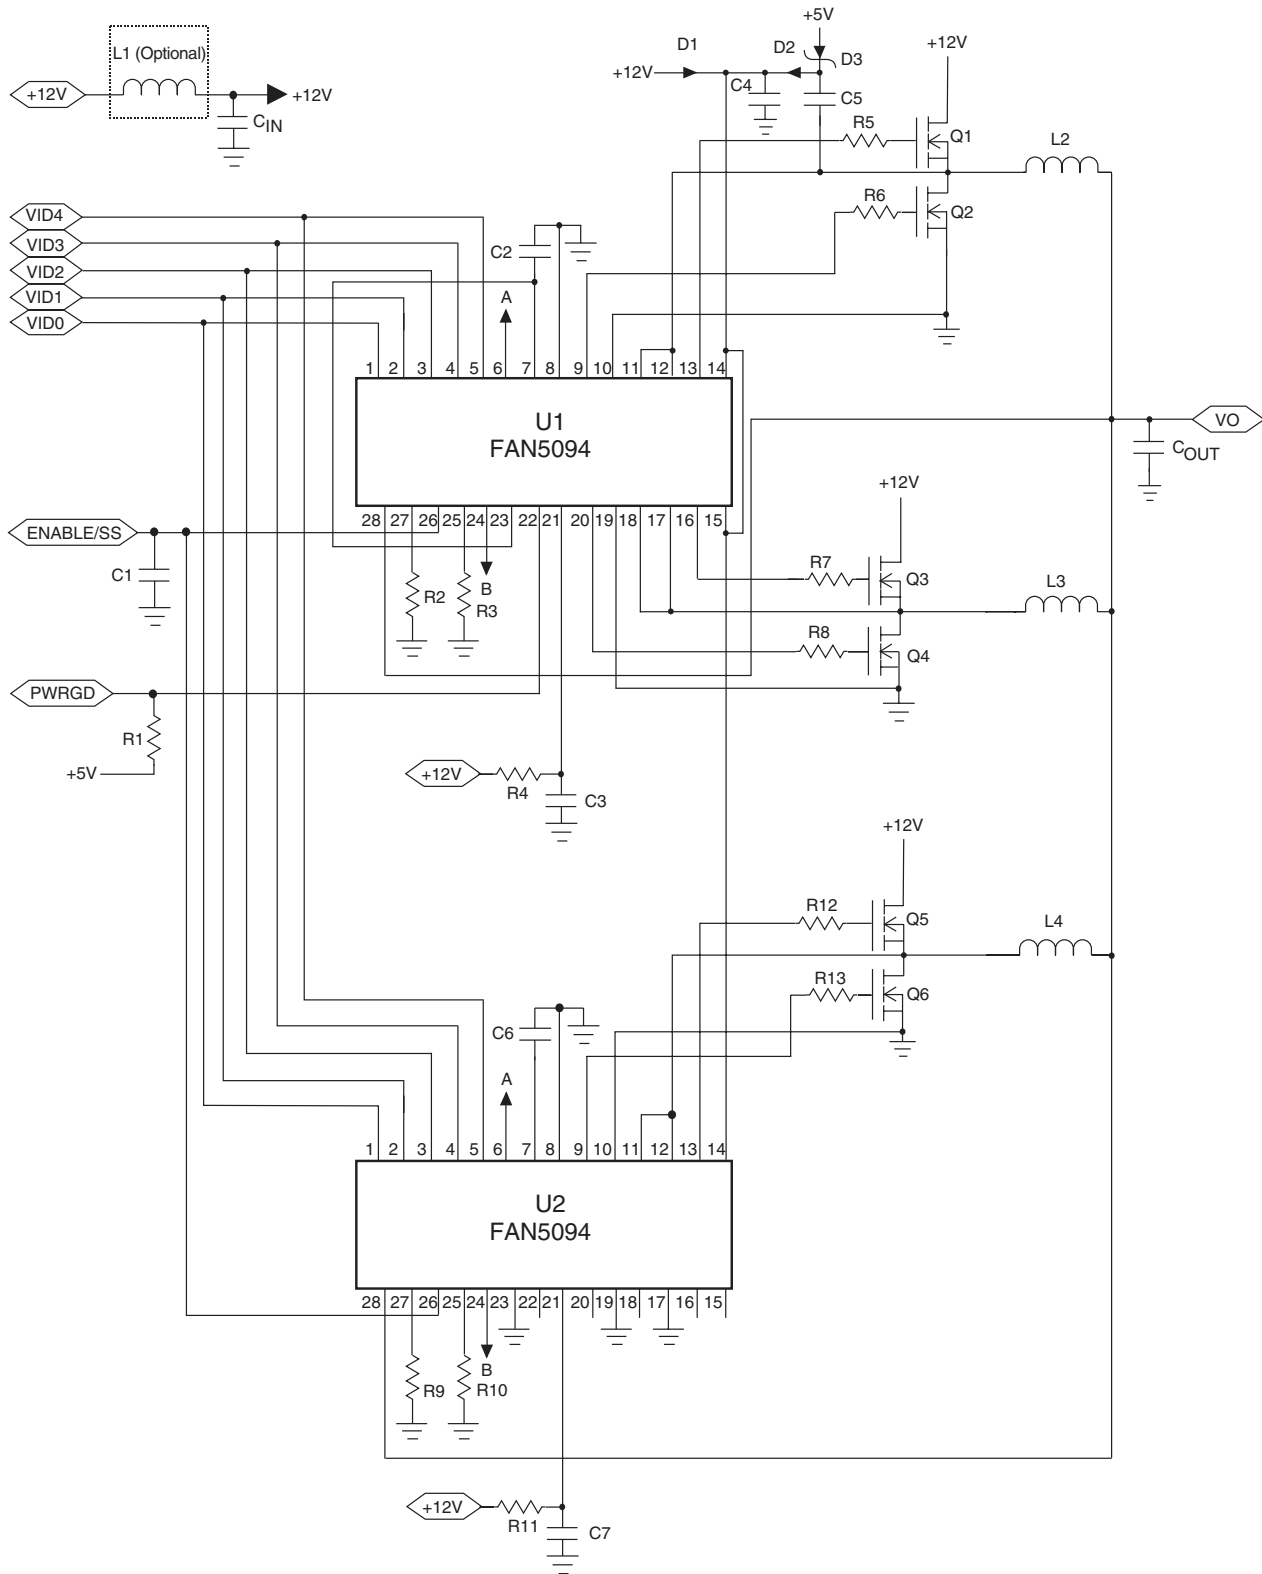

Figure 1. Three-Phase Application Circuit for 65A Willamette Processor
( $V_{CC} = 12V$ ,  $V_{OUT} = 1.500V$ , and  $T_A = +25^{\circ}C$  using circuit in Figure 1, unless otherwise noted.)
( $V_{CC} = 12V$ , and  $T_A = +25^\circ C$  using circuit in Figure 1 , unless otherwise noted.)
**Table 2. FAN5094 Application Bill of Materials for Figure 1**
The FAN5094 contains four high current output drivers that utilize MOSFETs in a push-pull configuration. The drivers for the high-side MOSFETs use the BOOT pin for input power and the SW pin for return. The drivers for the low-side MOSFETs use the VCC pin for input power and the PGND pin for return. Typically, the BOOT pin will use a charge pump as shown in Figures 1–2. Note that the BOOT and VCC pins are separated from the chip's internal power and ground, BYPASS and AGND, for switching noise immunity.